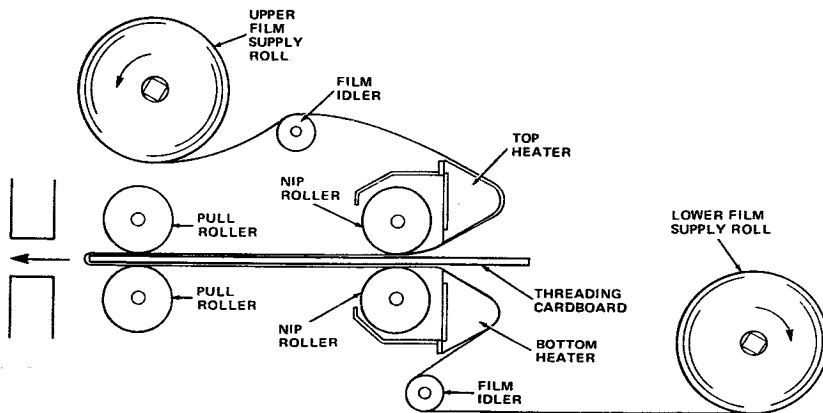

Figure 4.0.5 Completing the Threading
12. Use a piece of stiff cardboard approximately the same width as the film to complete the threading as shown in figure 4.0.5. While pushing the cardboard between the heaters and between the two sets of rollers, slowly rotate the upper and lower supply rolls to provide film slack. Continue to push the cardboard through and withdraw it from the back of the Laminator.